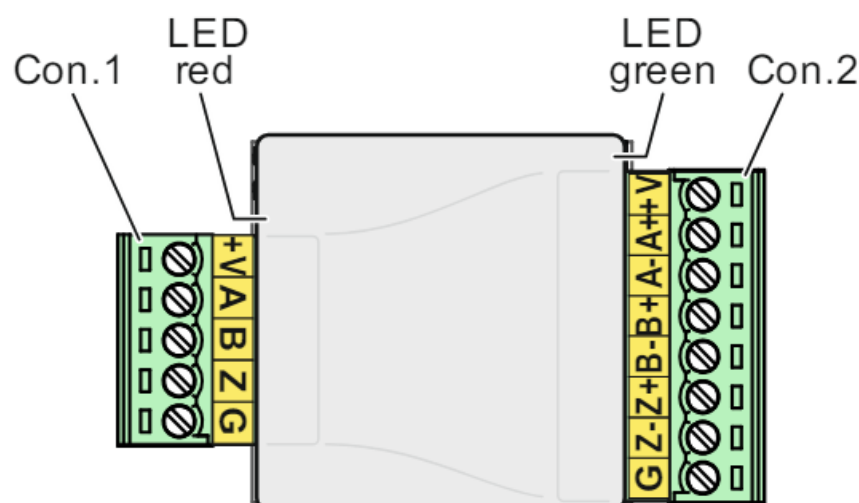

Figure 2.1 Position of the connector on the encoder interface SED2
The single-ended to differential encoder interface SED2 has 2 connectors on it (Figure 2.1):
- Detachable 5-pole connector for connection with incremental encoder (Con.1 – Figure 2.1). Table 2.1 gives the pinout of the connector for connecting the incremental encoder. Pull-up resistors of 4.7 kΩ are placed on inputs A, B and Z, and
- Detachable 8-pin connector (Con.2 – Figure 2.1) on which differential signals from the incremental encoder are
The encoder interface SED2 has built-in 2 indicator LEDs, red on the side of connector Con.1 and green on the side of connector Con.2 (Figure 2.1).